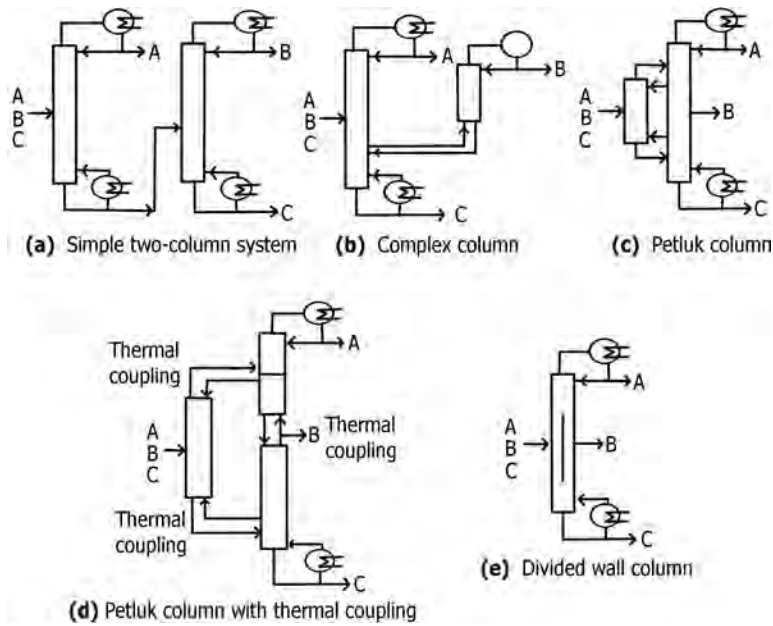

FIGURE 17.37 Different arrangements for separation of a three-component mixture.
- Figure 17.37 illustrate simple and complex arrangements for separation of a three-component mixture into pure components along with Petlyuk and a divided wall column arrangements.